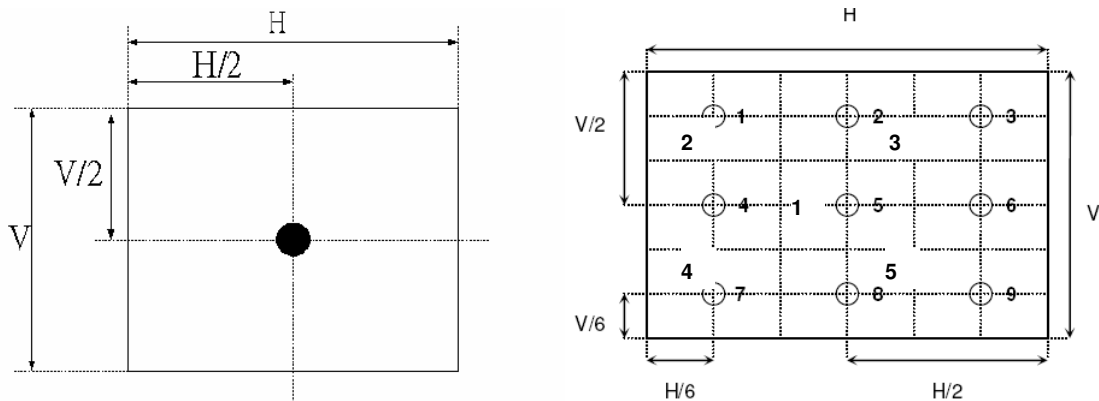

Fig.4-2 Optical measurement point
2. Surface luminance is luminance value at point 1 across the LCD surface 50cm from the surface with all pixels displaying white. From more information see Fig. 4-2. When $V_{DDB} = 24V$, $I_{DDB} = 12.5 A$. $L_{WH} = L_{on1}$, Where L_{on1} is the luminance with all pixels displaying white at center 1 location.